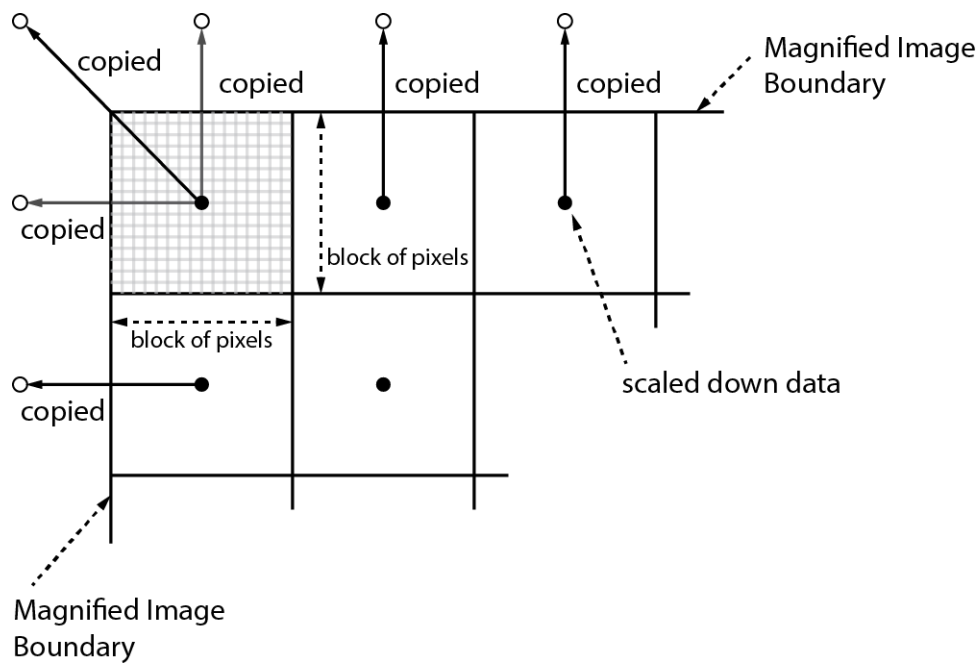

Figure 9.9 Bilinear Interpolated Magnification
3. Execute the **Flat Field Data Save** parameter to save the generated Flat Field data into the non-volatile memory. When the scaled down Flat Field data are used for correction, they are expanded and applied with a Bilinear Interpolation as shown in the Figure 9.9.